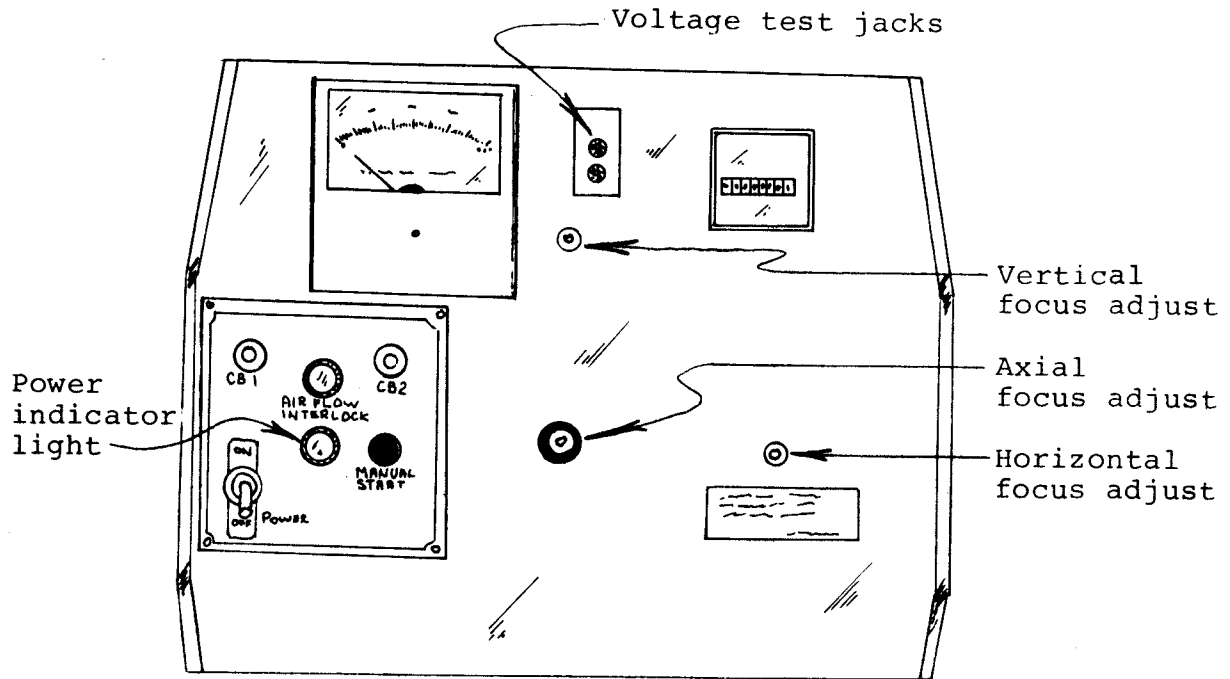

Figure 4-1. Control Panel
4.3 CONTROL PANEL ASSEMBLY (SEE FIGURE 4-1)
d. Insert a 3/16 inch hex wrench into the center adjustment hole (AXIAL FOCUS ADJUST, see Figure 4-1), and adjust until the light pattern on the wall resembles a target with a small dark "bullseye" in the approximate center, surrounded by gray rings (see Figure 5-2A). Adjust the horizontal and vertical bulb adjustments (see Figure 4-1) to set the dark bullseye symmetrically in the center of the gray rings (see Figure 5-2B). Turn the center focus adjust clockwise until the dark bullseye just disappears. The bulb is now aligned with respect to the lamphouse mirror.